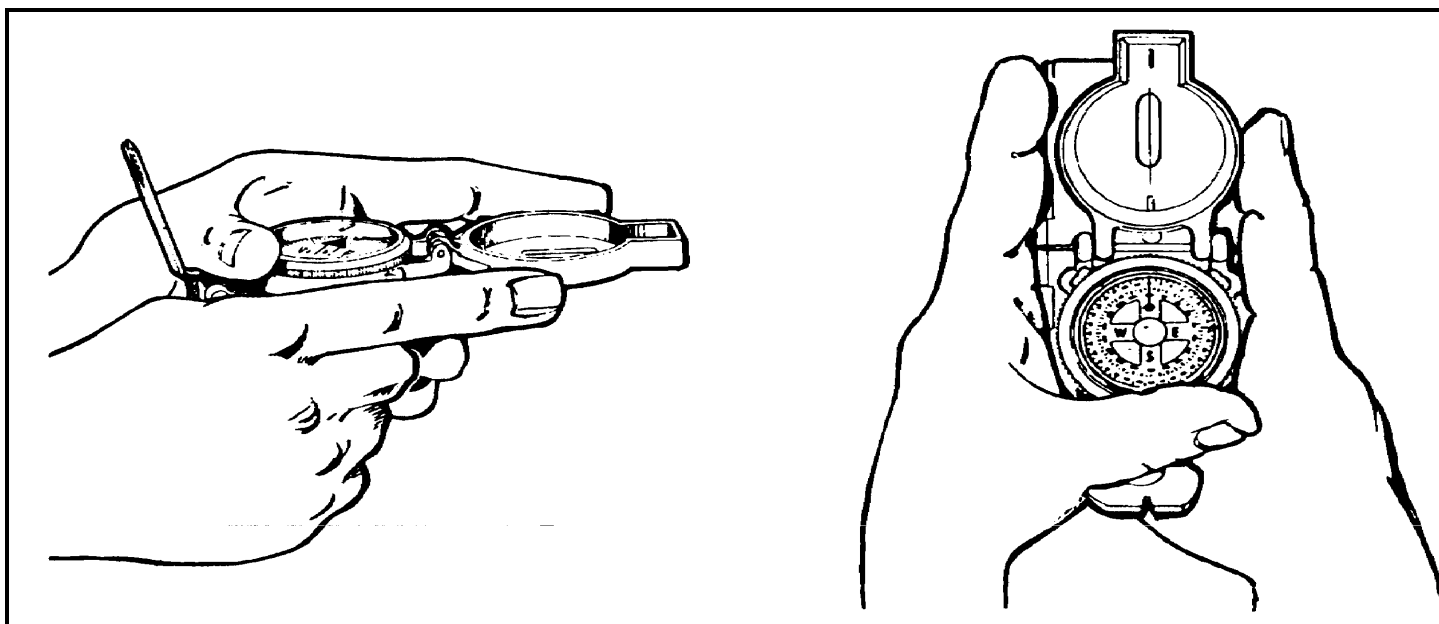

Figure 9-2. Centerhold technique.
a. **Using the Centerhold Technique.** First, open the compass to its fullest so that the cover forms a straightedge with the base. Move the lens (rear sight) to the rearmost position, allowing the dial to float freely. Next, place your thumb through the thumb loop, form a steady base with your third and fourth fingers, and extend your index finger along the side of the compass. Place the thumb of the other hand between the lens (rear sight) and the bezel ring; extend the index finger along the remaining side of the compass, and the remaining fingers around the fingers of the other hand. Pull your elbows firmly into your sides; this will place the compass between your chin and your belt. To measure an azimuth, simply turn your entire body toward the object, pointing the compass cover directly at the object. Once you are pointing at the object, look down and read the azimuth from beneath the fixed black index line (Figure 9-2). This preferred method offers the following advantages over the sighting technique:
- (1) It is faster and easier to use.
- (2) It can be used under all conditions of visibility.
- (3) It can be used when navigating over any type of terrain.
- (4) It can be used without putting down the rifle; however, the rifle must be slung well back over either shoulder.
- (5) It can be used without removing eyeglasses.